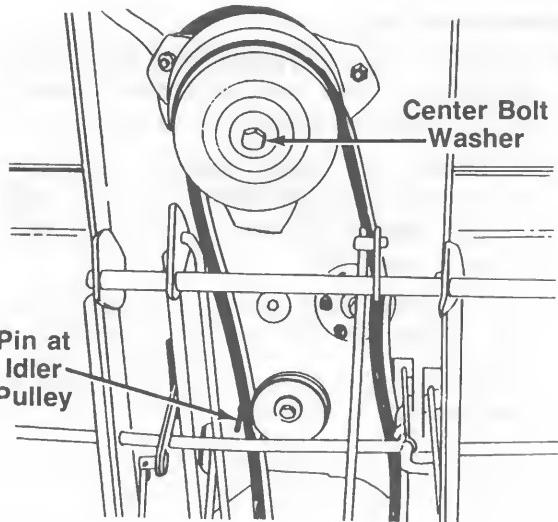

FIGURE 28.—Model 784G
- Loosen the pin at the idler pulley, shown in figure 28.